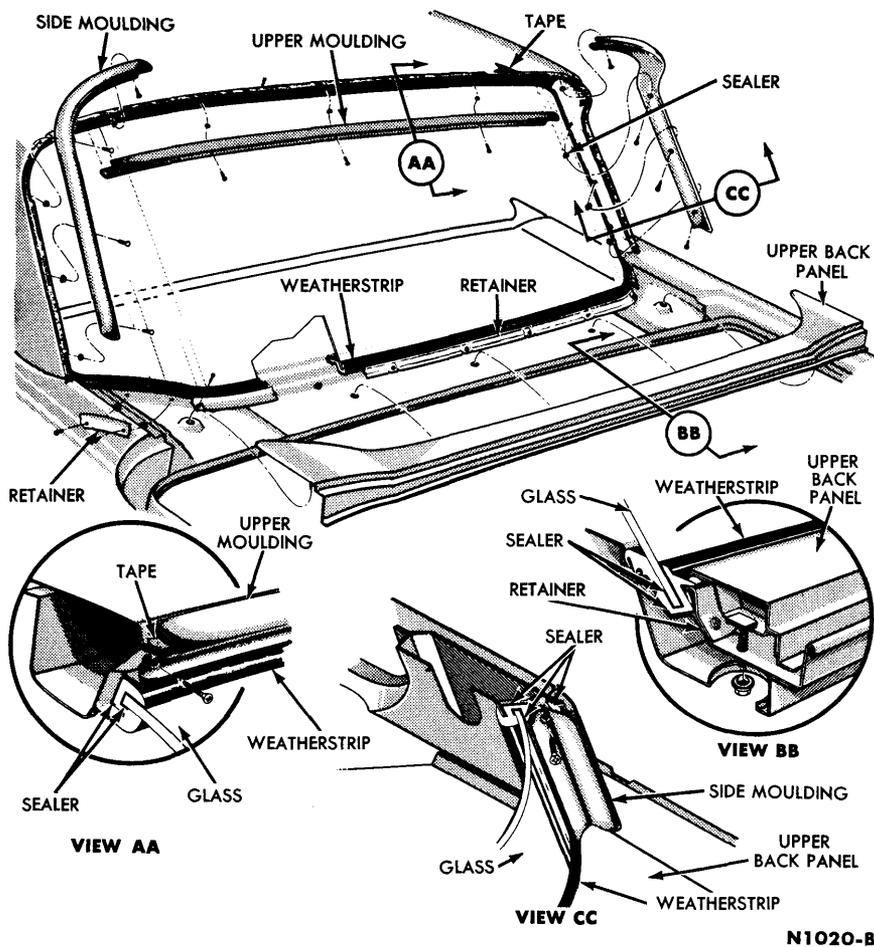

FIG. 15—Back Window and Exterior Mouldings
1. Remove the back window outer side moulding retaining screws from each side moulding and remove the mouldings (Fig. 15).
2. Remove the screws retaining the upper outside moulding and remove the moulding (Fig. 15).
4. Remove the back window weatherstrip center and side retainers (Fig. 15).
12. Install the window weatherstrip retainers at the outer bottom edge of the back window (Fig. 15).
14. Install the back window upper moulding, and then install the side mouldings (Fig. 15).